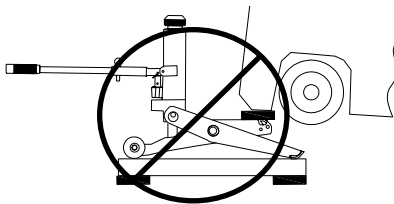

Figure 7A
- WARNING!** NEVER increase the lifting height of the jack by putting wood, pads, cinder blocks, or any other objects above the lift pad or underneath the front footpad and/or wheels (See Fig. 7A).